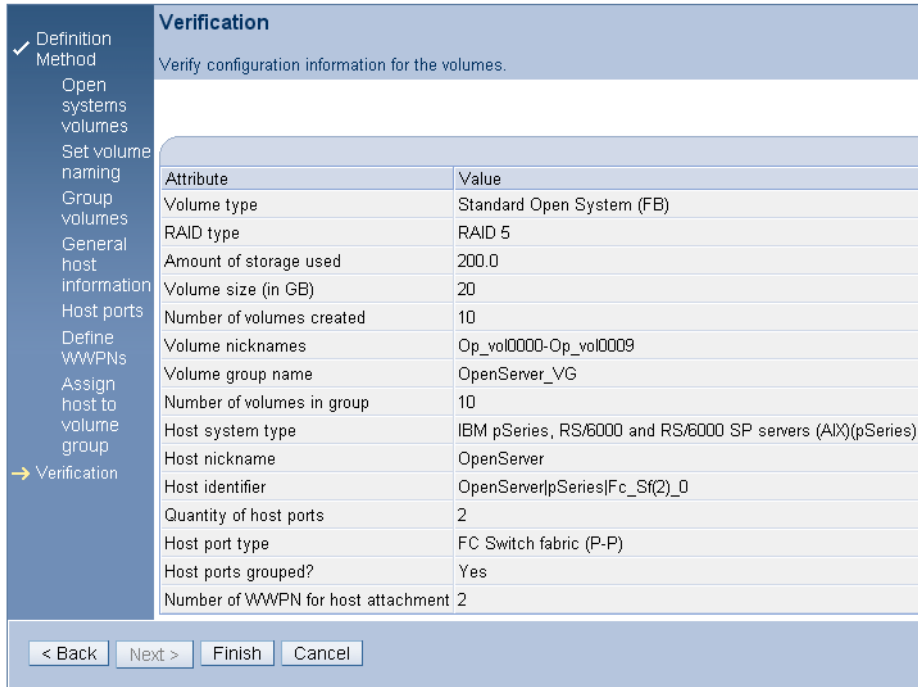

Figure 11-11 Express configuration: Verification window for open systems configuration
11. The final window, Figure 11-11, is a verification window where you can verify your selections before the configuration is applied to the real-time or simulated Storage Unit by selecting **Finish**. The Express configuration wizard will then configure the required amount of storage from the available unconfigured storage capacity depending on your selections and create the necessary number of Arrays, Ranks, and Extent Pools as well as the volumes and host attachments.